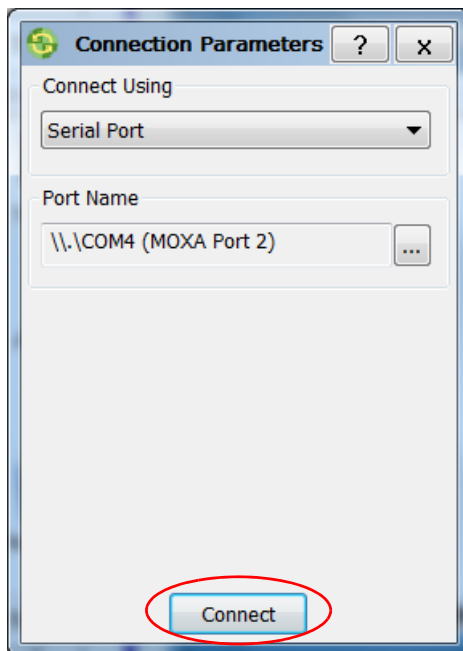

Figure 25: Connect to the Receiver
- Click **Connect** (Figure 25). The TRU main window appears.